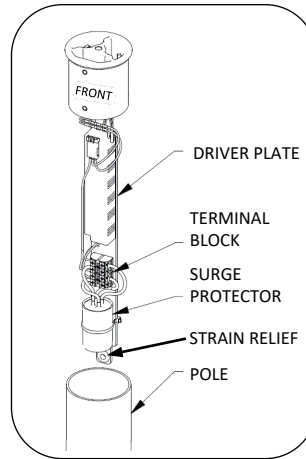

Fig. 3 – Install driver plate
4. Connect line-in wires to driver plate assembly. Pass wires through strain relief. See Fig. 3. Refer to wiring diagrams on page 3.
6. Gently insert the driver plate assembly into the top of the pole. Ensure the front of driver plate assembly is in the correct orientation. See Fig. 3 and 4.